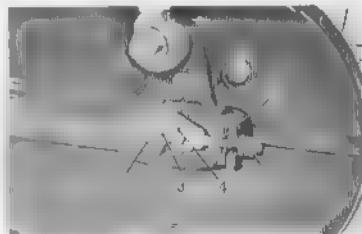

Fig. 5.27 Adjusting the drive chain
- Perform adjustment by loosening the axle nut ① and sleeve nut ② and then adjust with the adjusting nut ④ (Fig. 5.27).